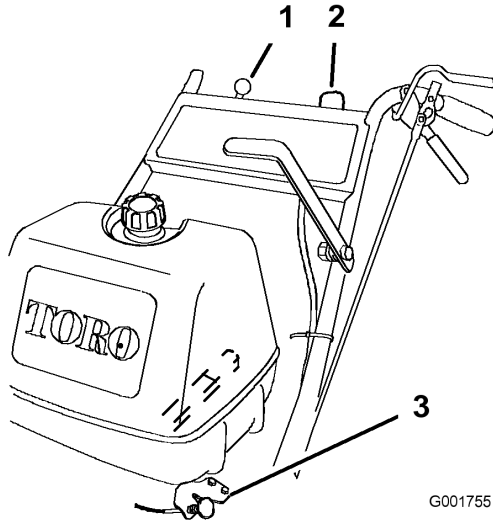

Figure 7
5. Turn the ignition key to the **run** position (Figure 7).
8. Pull the choke knob if the engine is cold (Figure 7).
1. Move the throttle lever to the slow position (Figure 7).